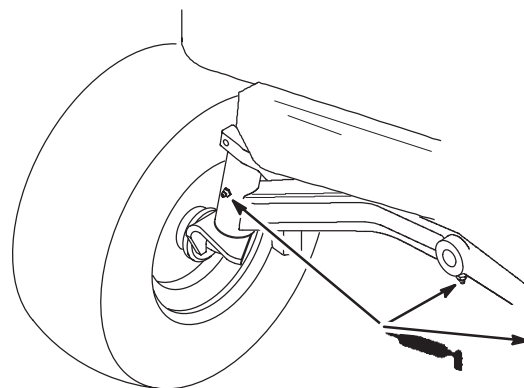

Figure 30
1. Lubricate the left-hand and right-hand spindles until grease begins to ooze out of the bearings (Fig. 30).
2. Lubricate the front axle pivot (Fig. 30).